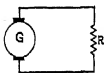

FIG. 14.
**Prob. 32-1.** A d-c. generator is producing a pressure of 133.5 volts at its terminals. How much current is it delivering if the resistance of the load is 63 ohms? (Connections like Fig. 14.)
**Prob. 34-1.** If the generator in Fig. 14 has a terminal voltage of 35 volts, what current is flowing through the 0.85 ohm resistance?
**Prob. 35-1.** Suppose the generator of Fig. 14 produces 150 volts. What is the resistance of the circuit when the current is 5 amperes?